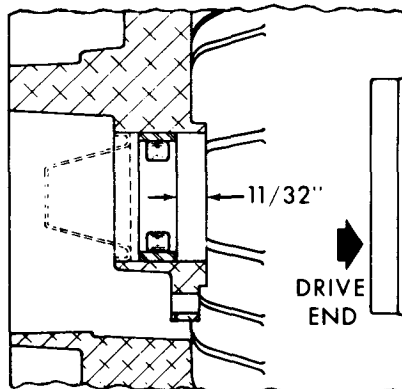

Figure 19—Bearing location
3. Push against the race only to install the new bearing to the dimension shown in Figure 19. To facilitate the installation, heat the end frame in an oven to 200 to 300° F. This will not damage the regulator.